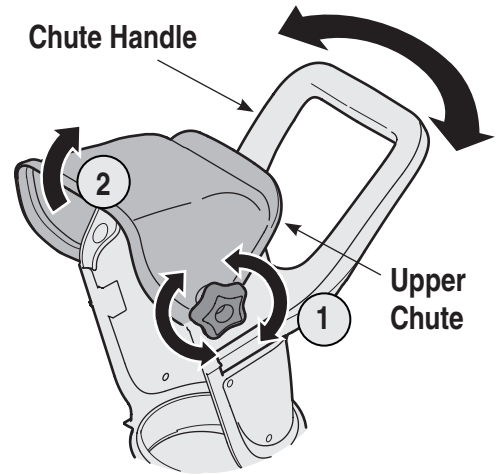

Figure 1
1. Loosen the chute knob on the upper chute(1) and pivot the upper chute upwards(2) as far as it will go. See Figure 1.
6. Tighten the chute knob on the upper chute making sure the carriage bolt is correctly positioned. Refer to Figure 1.